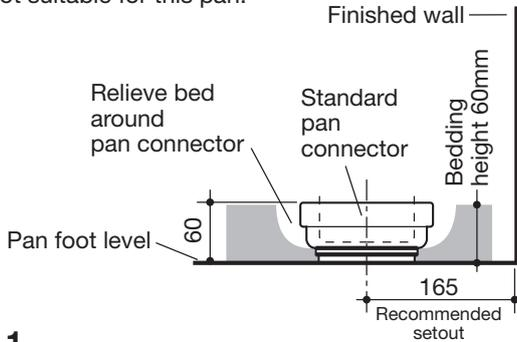
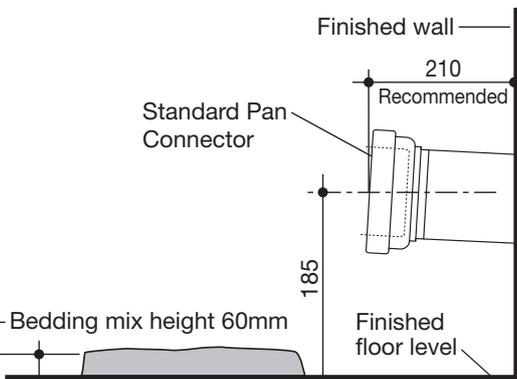

Fig. 1
Fig. 2
The soil pipe and pan collar should be accurately fixed into position as recommended for Stylus pans, as detailed in **Figure 1** and **Figure 2**.
3. Prepare bedding sand cement mixture 3:1 to depth of 60mm as detailed in **Figure 1** or **Figure 2**.